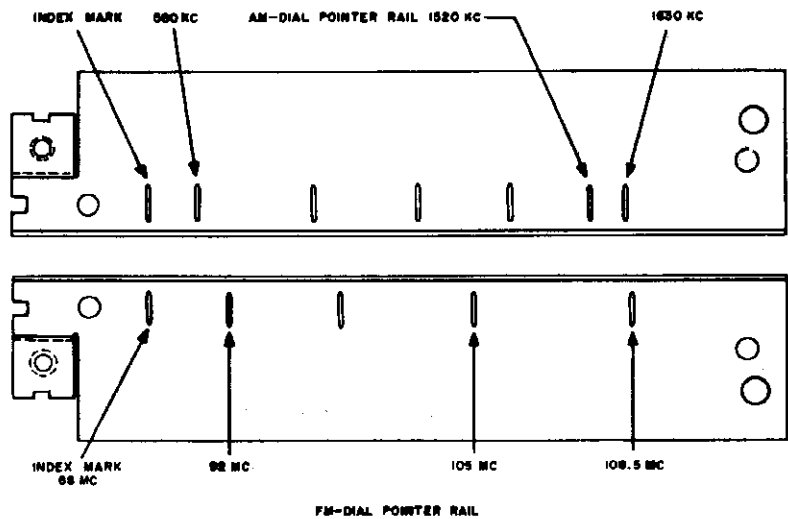

Figure 3. AM and FM Pointer Rails, Showing Alignment Marks
**DIAL POINTER**—Before the alignment is started, the dial pointer should be set to coincide with the index mark on the dial pointer rail assembly when the tuning gang is completely closed. See figure 3. (The pointer rail is the metal assembly upon which the pointer rides.)
**DIAL POINTER**—Before the alignment is started, the dial pointer should be set to coincide with the index mark on the dial pointer rail assembly when the tuning gang is fully closed. See figure 3.